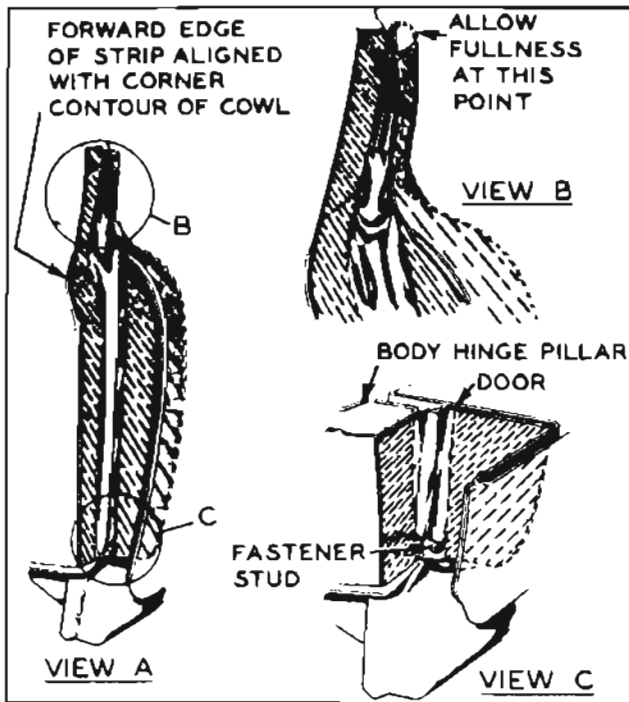

Figure 13-8—Hinge Pillar Sealing Strip Installation
4. Use 3-M Weatherstrip Adhesive to cement the new sealing strip to the front face of door hinge pillar. In this operation insert the fastener stud on lower end of hinge pillar through the hole in the sealing strip to insure proper vertical position of strip. See figure 13-8, view C.
the sealing strip to the body hinge pillars aligning the edge of sealing strip with corner contour of cowl panel. See figure 13-8, view A. In this operation it is very important to allow just enough fullness at upper end of sealing strip to prevent any strain on it when the door is fully opened. See figure 13-8, view B.